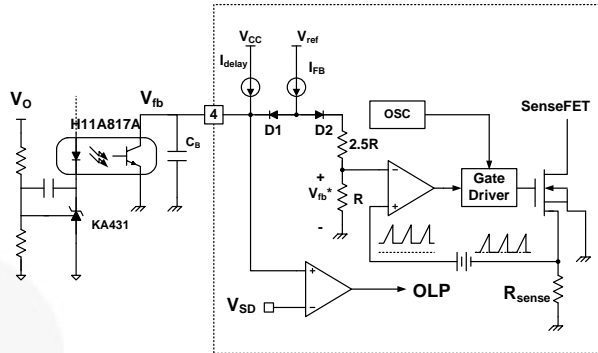

Figure 32. Pulse Width Modulation (PWM) Circuit
3. Feedback Control: The FSCQ series employs current mode control, as shown in Figure 32. An optocoupler (such as Fairchild's H11A817A) and shunt regulator (such as Fairchild's KA431) are typically used to implement the feedback network. Comparing the feedback voltage with the voltage across the R_{sense} resistor, plus an offset voltage, makes it possible to control the switching duty cycle. When the reference pin voltage of the shunt regulator exceeds the internal reference voltage of 2.5 V, the opto-coupler LED current increases, pulling down the feedback voltage and reducing the duty cycle. This typically occurs when input voltage is increased or output load is decreased.
3.1 Pulse-by-Pulse Current Limit: Because current mode control is employed, the peak current through the SenseFET is limited by the inverting input of the PWM comparator (V_{fb}^*) as shown in Figure 32. The feedback current (I_{FB}) and internal resistors are designed so that the maximum cathode voltage of diode D_2 is about 2.8 V, which occurs when all IFB flows through the internal resistors. Since D_1 is blocked when the feedback voltage (V_{fb}) exceeds 2.8 V, the maximum voltage of the cathode of D_2 is clamped at this voltage, thus clamping V_{fb}^* . Therefore, the peak value of the current through the SenseFET is limited.